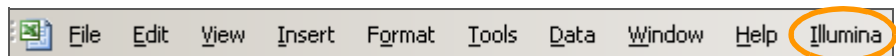

Figure 105 Illumina Add-In for Excel
8. A new drop down list called "Illumina" should now be visible at the far right side of the toolbar (Figure 105).